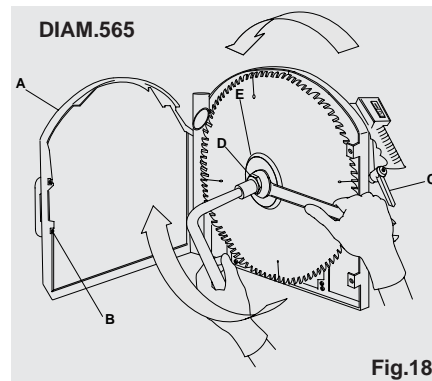

Fig.18
Open the door (A) of the blade case by fitting a screwdriver into the screw (B), lock the case down with the handle (C). In this condition, you will have enough room to loosen the nut with the left-hand threading (D), stop the driving shaft by fitting in an Allen screwdriver as shown in fig. 18 and turn clockwise with an open screwdriver. When doing this, be careful not to get hurt with the blade; the use of gloves is recommended. Pull out the external flange (E), so as to get close to the driving shaft where the blade has to be assembled/replaced. Repeat the whole procedure in reverse to complete the operation.
Be very careful with the angle of the blade teeth, and make sure it is the same as the one shown in Fig. 18.